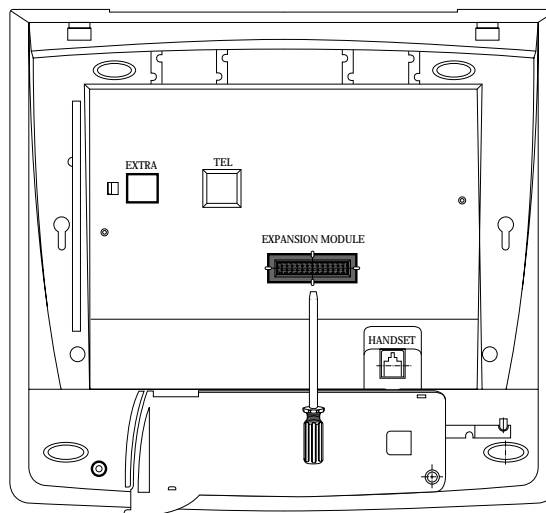

FIGURE 8-2 BOTTOM OF KTS (Euro KTS)
2. Remove with a driver molding substances of expansion module of base housing. (See Figure 8-2)
3. Remove extra molding substances by the same method as step2. (See Figure 8-2)